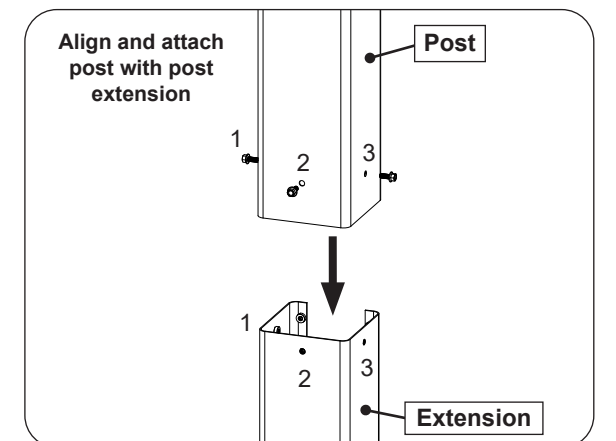

Fig. 5-3 Install post to extension
5. Align the three holes on the front of the post to the three weld nut holes on the front of the post extension so that the open portion faces the same direction as the access plate opening. See Fig. 5-3.
6. From outside the joined post and post extension, insert one of the $1/4 \times 20"-1/2"$ bolts (supplied) into each of the three (3) bolt holes and tighten each bolt using a $7/16"$ socket driver or wrench (see Fig. 5-3).